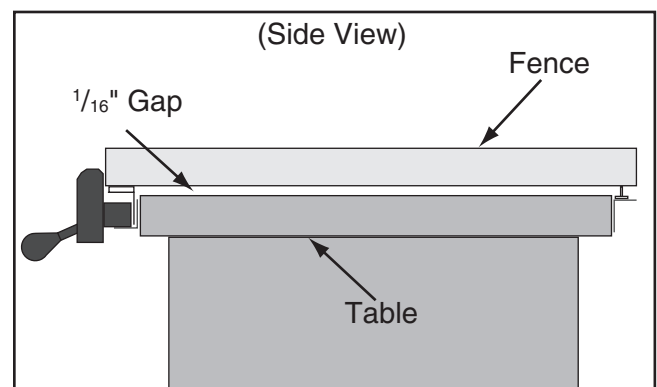

Figure 137. Gap between fence and table approximately $\frac{1}{16}$ " from to back.
- If the gap is approximately $\frac{1}{16}$ " and even from the front of the table to the back (see **Figure 137**), then no additional adjustments are necessary. Proceed to **Clamping Pressure and Parallelism**.
- If the fence drags across the table, loosen the hex nut on the foot at the rear of the fence and adjust the foot to raise the fence off of the table so the gap is approximately $\frac{1}{16}$ " and even from the front of the table to the back (see **Figure 137** on **Page 70**). Tighten the hex nut on the foot to secure the foot in position.